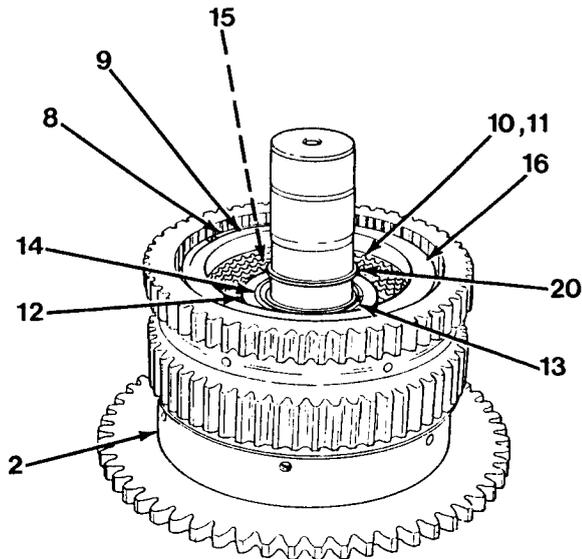

Figure 11-10
19. Install clutch piston (16) in clutch shaft assembly (2, Figure 11-10).